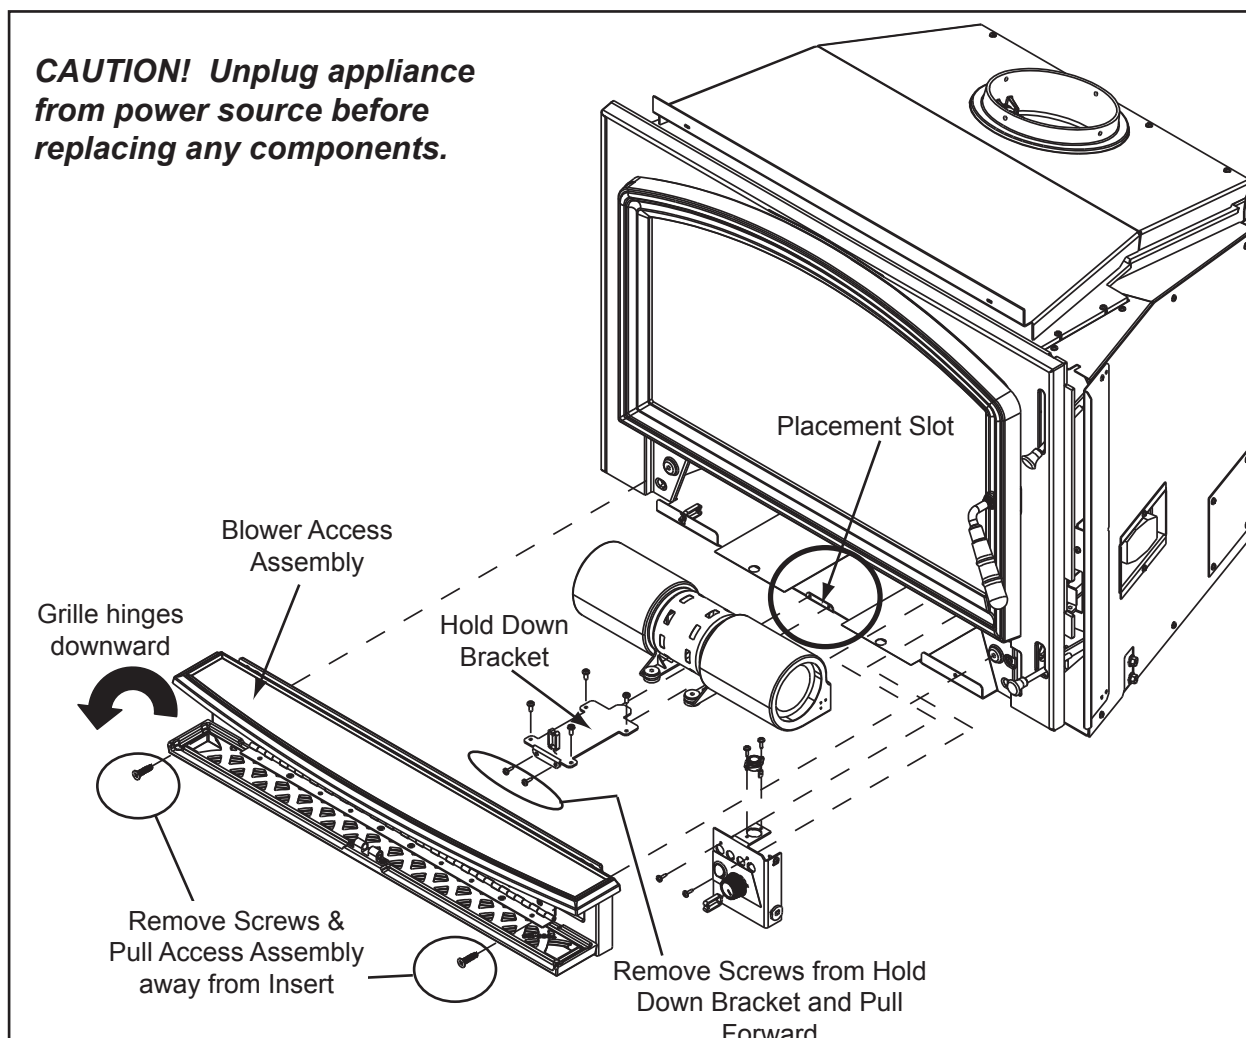

Figure 8.1
3. Locate the snap disc bracket assembly behind the blower controls on the right side under the ash lip. **Figure 8.1**
1. The grille on the blower access assembly is hinged. Swing the grille downward to expose the 2 screws. **Figure 8.1**